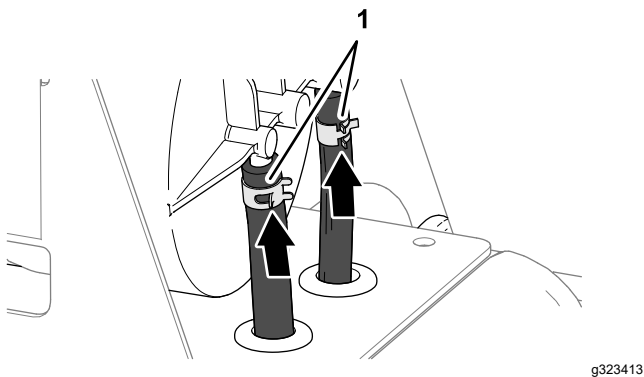

Figure 91
4. Secure the hoses to the fittings with the clamps (Figure 91)